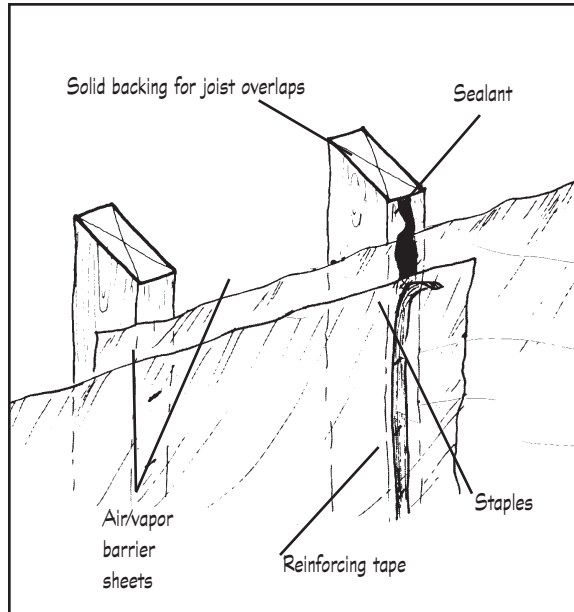
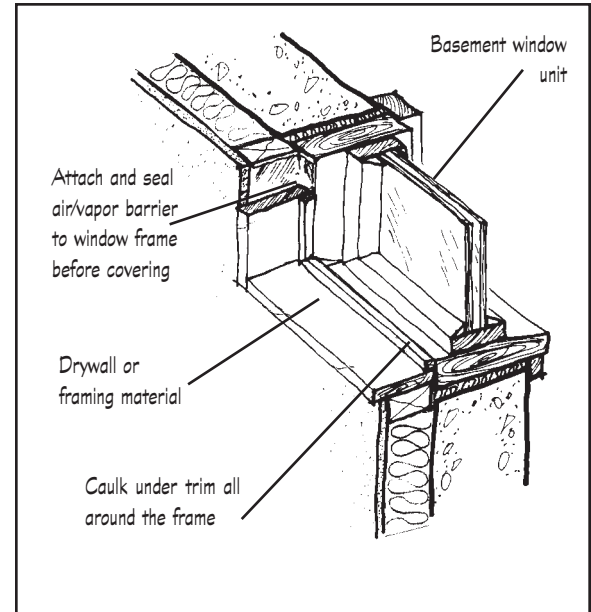

Figure 8
Figure 9
Step 6: Apply the air/vapor barrier. Also called an air/vapor “retarder,” it is essential to add this layer of protection on the inner or “warm” side of the insulation. This barrier can be provided by 4 or 6 mil polyethylene. Staple the polyethylene to the framing, using only enough staples to hold the material in place. Do not pull it tight. All seams should overlap one joist or stud space (see Figure 8). Better contractors use acoustical sealant (a caulk and glue mixture) to seal the barrier against air leakage. Overlaps, joints or edges can be reinforced with a strong tape (do not use cloth backed duct tape) before stapling. The barrier should also be sealed around windows and exterior door openings as shown in Figure 9.